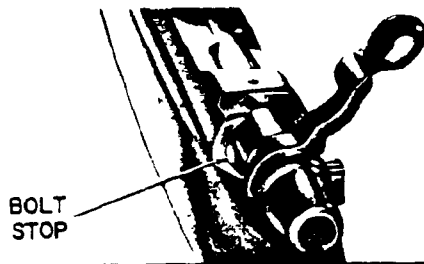

Fig. 1
**CLEANING AND CARE** — **Caution:** Make sure rifle is empty of live ammunition (before cleaning). To make cleaning of barrel or bolt easier remove bolt from rifle. (See Fig. 1). Use a good petroleum solvent for cleaning of parts.
**TO REMOVE BOLT** — Push safety forward to unlock bolt and raise bolt handle. Pull bolt rearward. Press down on front of bolt stop. Bolt stop is located in left rear of bolt channel in receiver (Fig. 1). Use small flat key or screw driver. Allow bolt to slide back and disassemble as bolt stop is passed; lift bolt from gun.